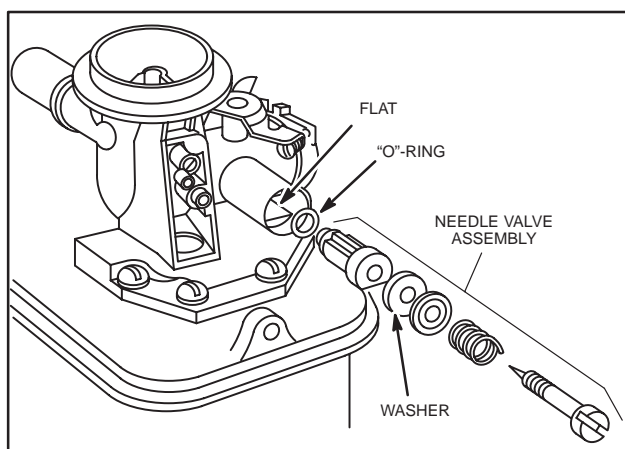

Fig. 147 – NEEDLE VALVE ASSEMBLY, PRESSED-IN-TYPE
**NOTE:** Some zinc carburetors use Minlon™ needle valve assembly, Fig. 147. See next subject heading "Remove Needle Valve Assembly - Pressed-in Type" for removal procedure.
4. Remove inner "O"-ring, Fig. 147.